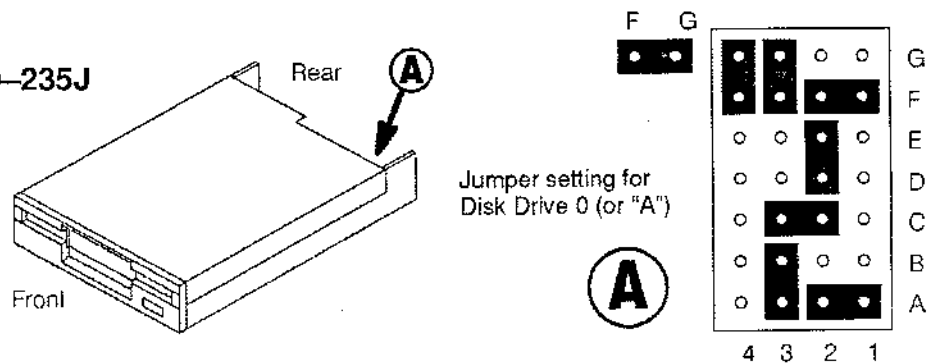

Figure 6-1. Disk Drive Jumper Locations
1. On the disk drive unit, set the jumpers for Drive 0, according to the manufacturer's pattern shown in Figure 6-1.